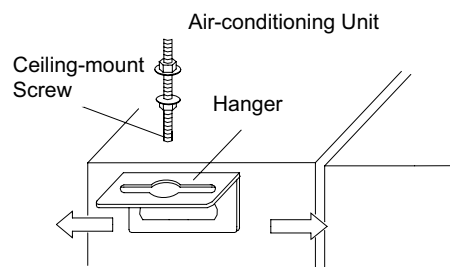
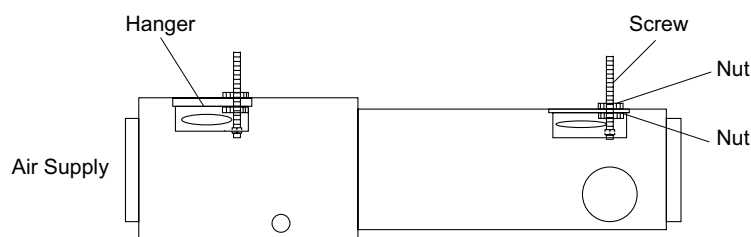

Figure 1-1-2
Figure 1-1-3
4. Install the hanger onto the indoor unit as Figure 1-1-2 and Figure 1-1-3 shows.